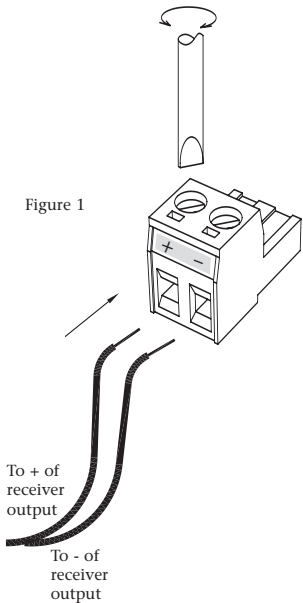

Figure 1
1. In the accessories plastic bag you will find a small green plastic connector as shown in Figure 1.
3. Use a small jewelers screwdriver to loosen the screws on the connector just enough to allow the wire ends to fit in the holes. [Figure 1]